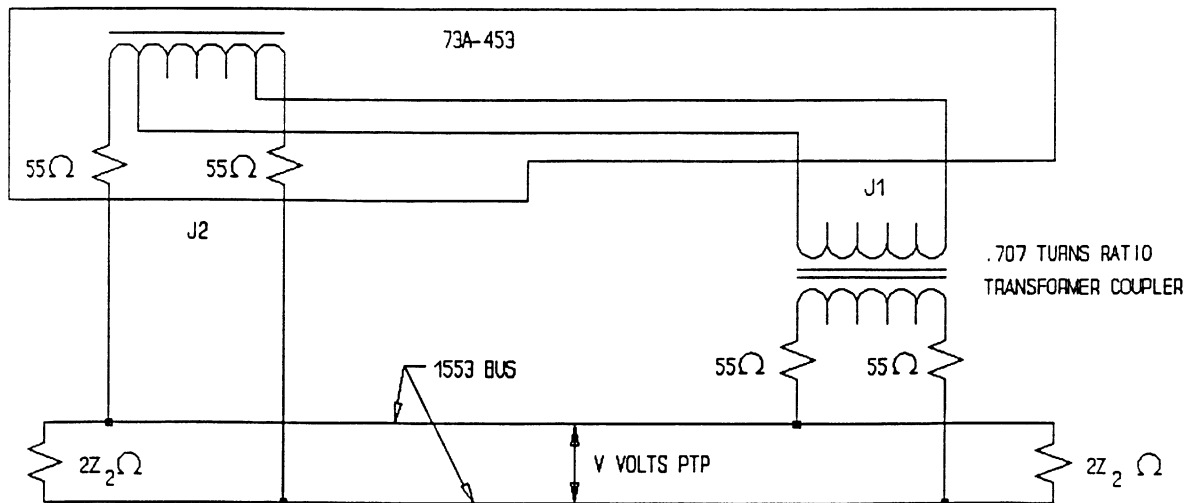

Figure 453-6: Direct- and Transformer-Coupled Circuit Connections
For transformer coupled connections to the 53A-453, the voltage (V) specified is that which would result on the bus side of a coupler, as shown in Figure 453-6 above. The voltage at the transformer-coupled output (J2) of the 53A-453 Card is approximately $0.707Vz_2 / (110 + z_2)$.